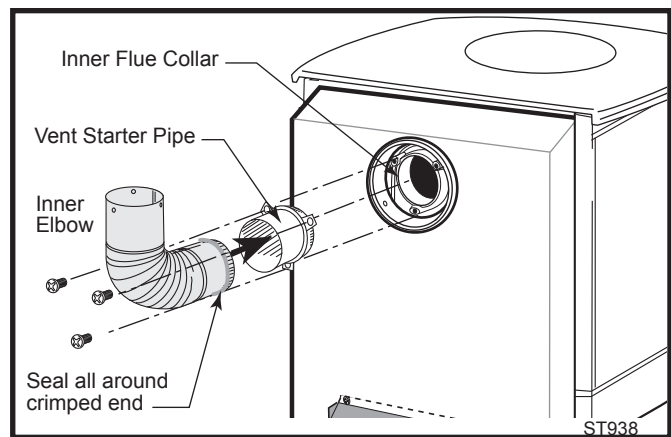

Fig. 21 Install inner starter pipe and inner elbow.
- Run a bead of sealant beneath the pipe bead and attach to the stove using three 1/4-20 x 3/8" phillips screws provided in the parts bag. (Fig. 21)
- Run a bead of sealant about 1/2" from end of the starter pipe and attach the assembly to the stove using three 1/4-20 x 3/8" Phillips screws provided in the parts bag. (Fig. 21)